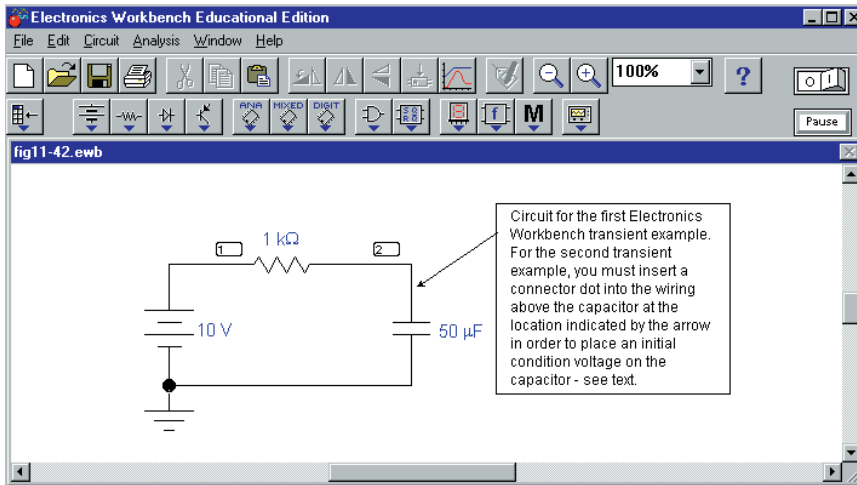

FIGURE 11-42 Electronics Workbench example. The switch is not required since the transient solution is initiated by software.
1. Be careful when connecting multiple lines to a node or Workbench may cause a line to be dropped. For example, in Figure 11-42 be sure that the ground is actually connected, not simply butted up against the bottom wire. If you have trouble, go to the Basic Parts bin, get a connector dot, (•) and use it to make the connection.